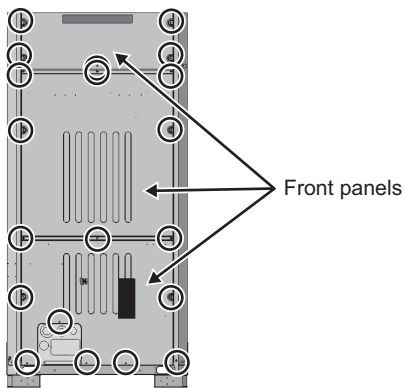

Fig. 24
(1) Remove the panel from the unit. (20 screws: Fig. 24)